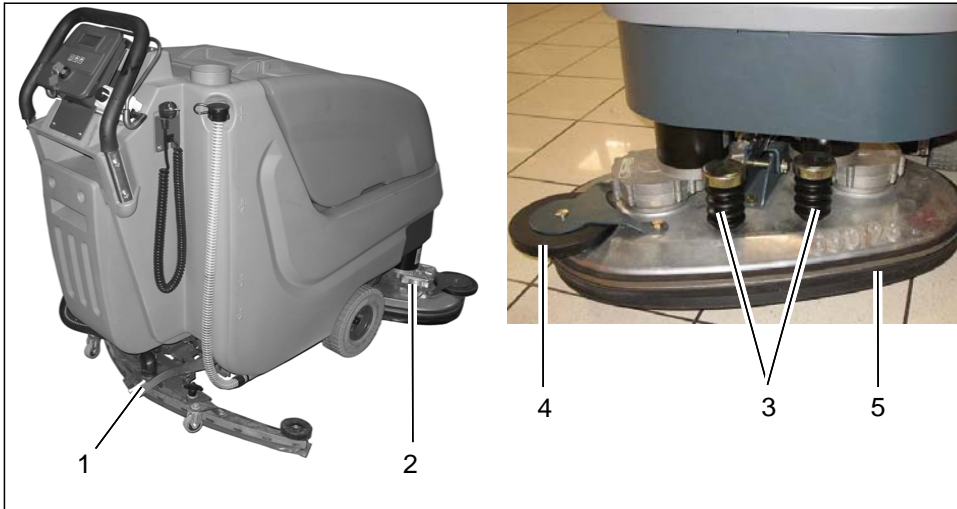

Fig.10
Clean brushes of the brush deck (Fig. 10/2) at daily intervals or as required.
1. Use pedal (Fig. 10/1) to lift up brush deck.
2. Press brush ejectors (Fig. 10/3) down to remove brushes for cleaning.
2. Press brush ejectors (Fig. 10/3) down to remove old brushes.
Check roller bumper (Fig. 10/4) at weekly intervals or replace as required.
Check sealing strip (Fig. 10/5) at weekly intervals or as required. Before doing so, open toggle-type fastener and remove sealing strip.